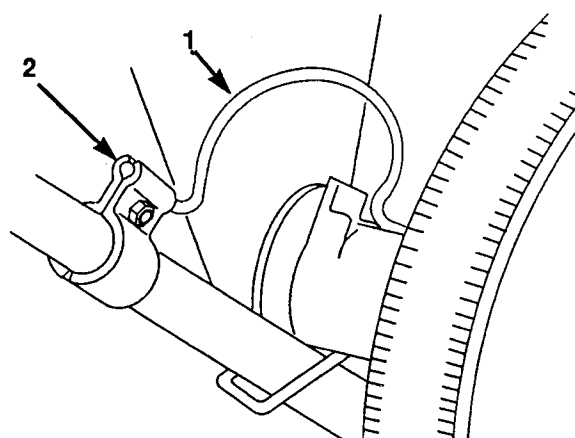

Figure 40
- D. Rotate the spring and insert its end into the hold-down clamp (Fig. 40).
1. Pull the hold-down spring out of the clamp (Fig. 40).